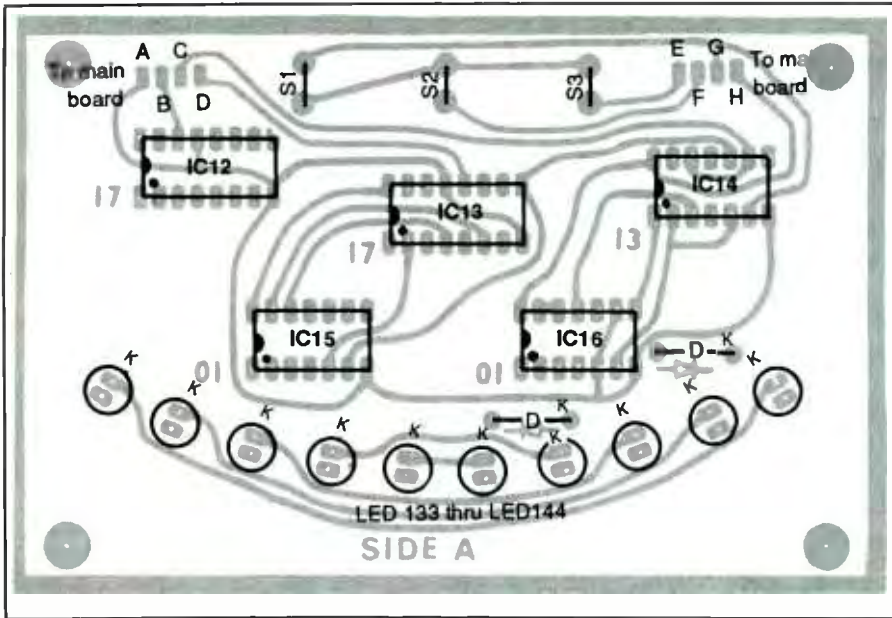
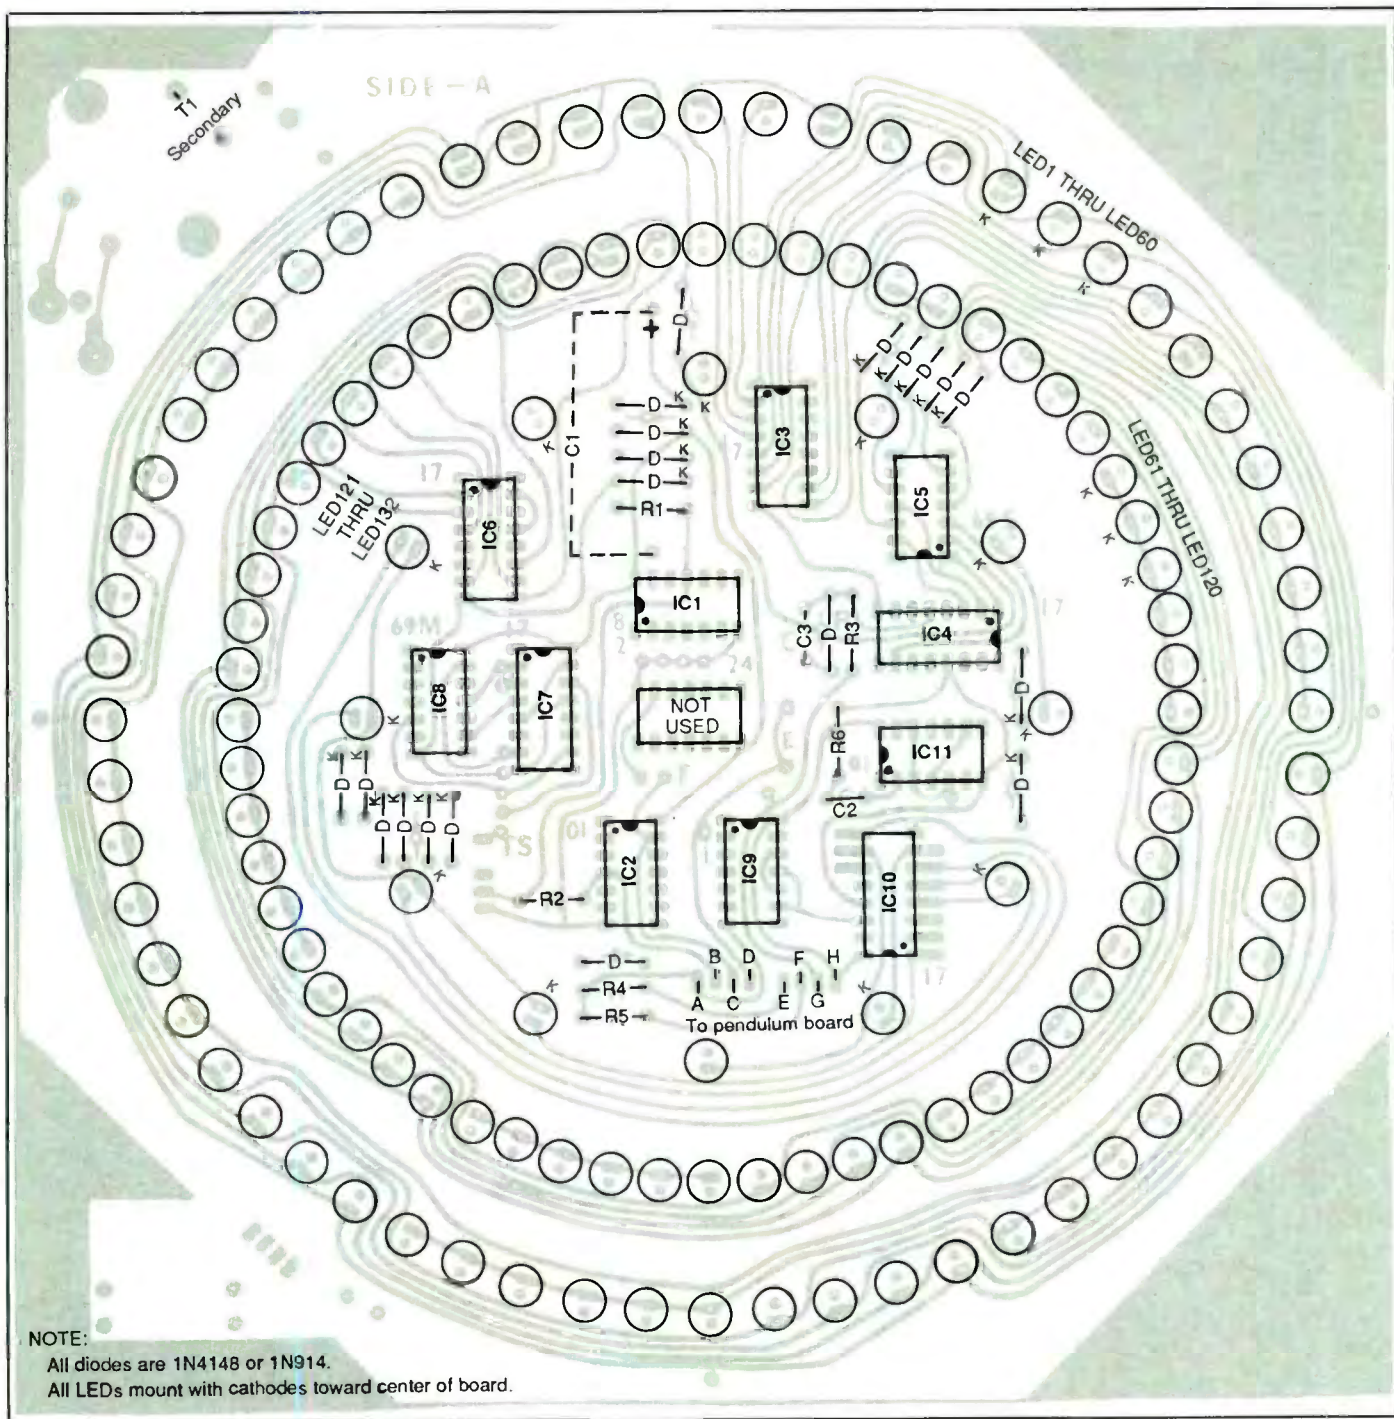

Fig. 4. Wiring guide for the pendulum board, viewed from the component side.
Fig. 5. Wiring guide for the main board, viewed from the component side.
Wire the pendulum board first, referring to Fig. 4 for details. (Note: The views shown in Fig. 4 and Fig. 5 are from the top of the board.) Install the sockets (or Soldercons) first but *not* the ICs themselves in the indicated locations. This done, identify the cathode leads of the 10 light-emitting diodes that make up the pendulum. Install these LEDs on the board in the indicated locations and solder their leads into place. Note that the cathode (K) leads all face toward the top of the board. Position the LEDs so that the bottoms of their cases are a uniform $\frac{1}{8}$ inch above the surface of the board.
Set aside the pendulum board and place the main board on your work surface in the orientation shown in Fig. 5. Begin populating this board by installing and soldering into place the sockets (or Soldercons) in the indicated locations. Note that no socket should be installed in the location in the center of the board. Again, do *not* install the ICs in the sockets yet. Then install and solder into place the resistors and diodes, making sure that the latter are properly oriented before soldering their leads to the copper pads.
Set the main board in place inside the enclosure, orienting it as shown in Fig. 5. Determine where to mount the power transformer. It should be located as close as possible to the T1 SECONDARY holes in the upper-left corner of the board. Mount the transformer in place using two No. 5 \times $\frac{1}{2}$ -inch wood screws.